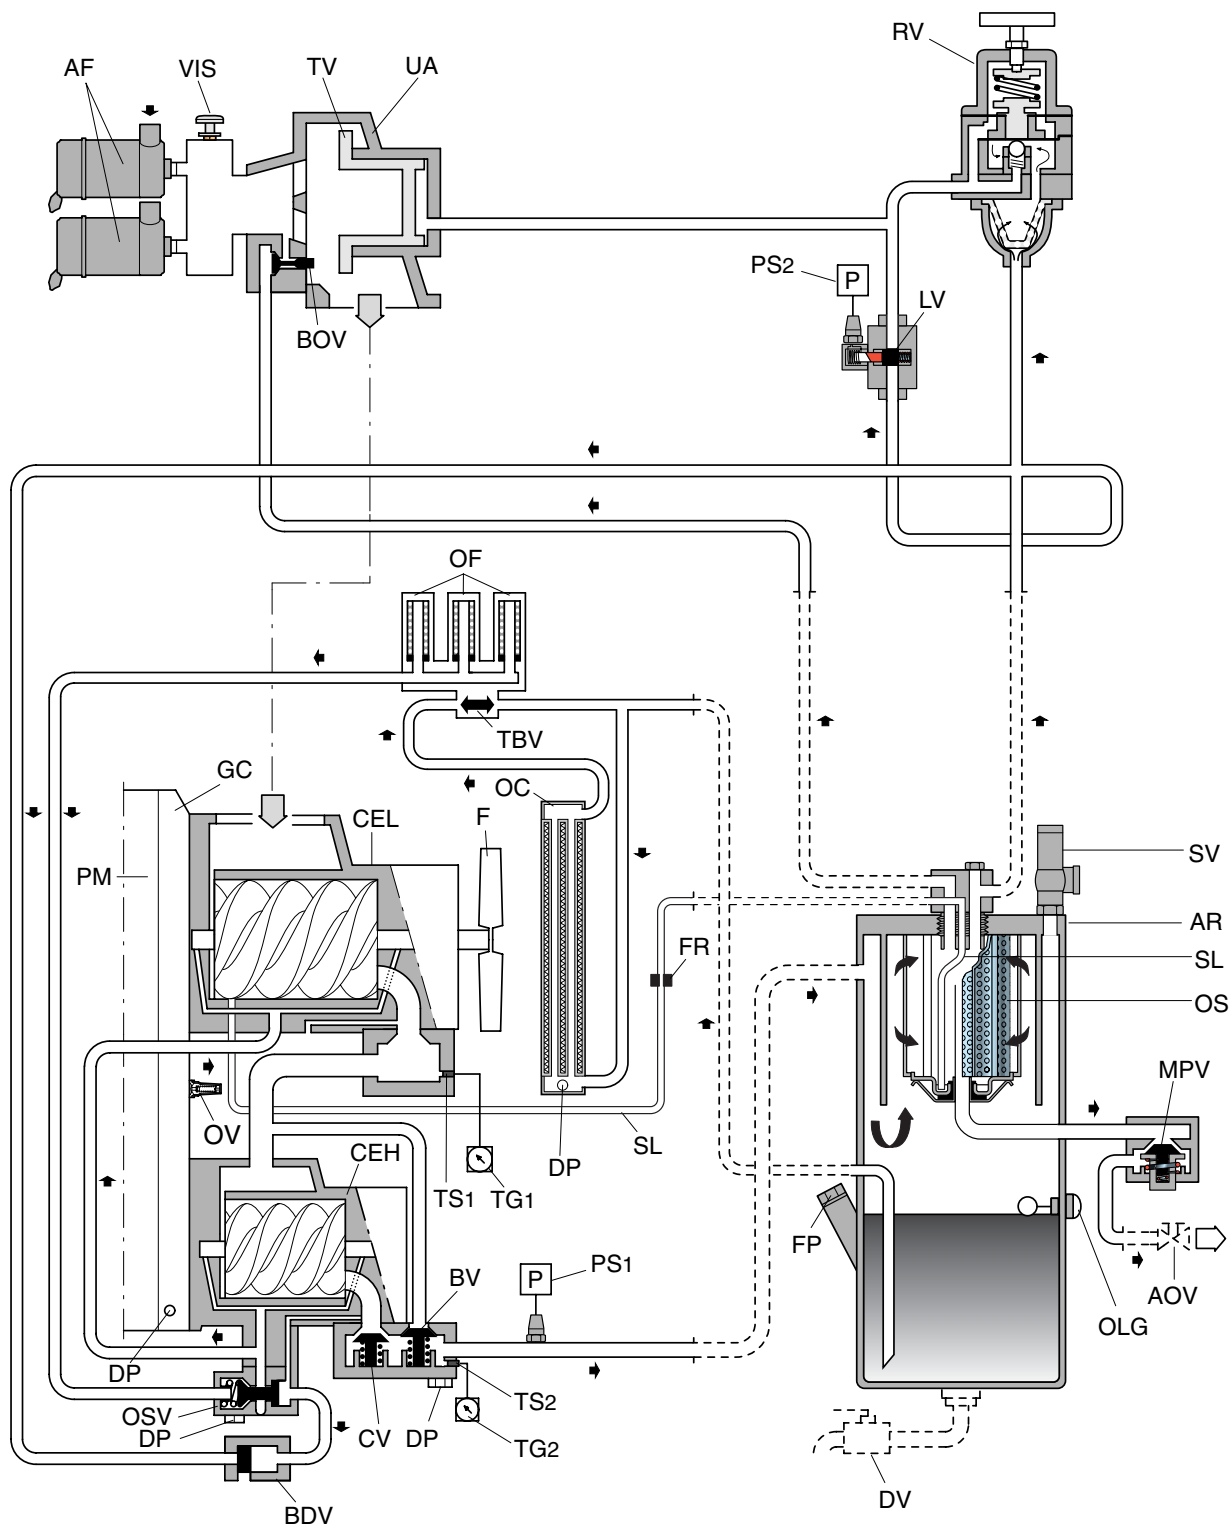

Fig. 2.3
2.5 AIR FLOW (SEE FIG. 2.3)
2.6 OIL SYSTEM (SEE FIG. 2.3)
2.7 CONTINUOUS REGULATING SYSTEM (SEE FIG. 2.3)
1. Remove the air receiver drain plug and open the drain valve (Fig. 2.3, DV) to drain possible condensate. Close the valve when all condensate has been drained or when oil comes out. Reinstall the drain plug. The interval between draining operations may be determined by experience, as the amount of condensate depends on the operating conditions. It may be necessary to keep the side panel(s) removed during operation to decrease the amount of condensate.